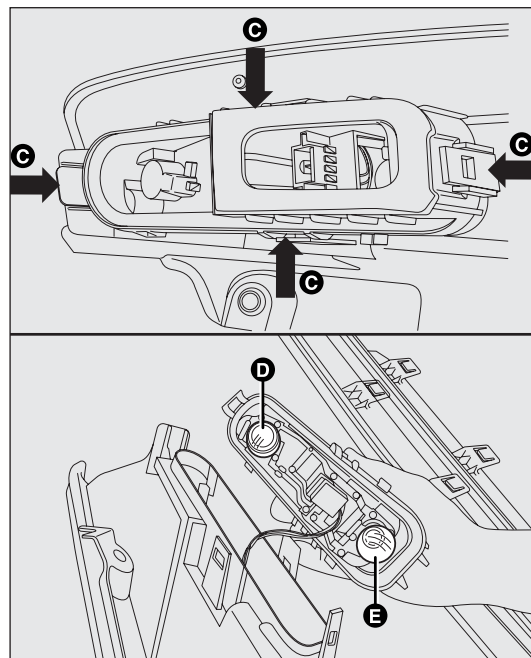

fig. 175
- ☐ unhook the bulb holder by unclipping the fasteners C-fig. 175;